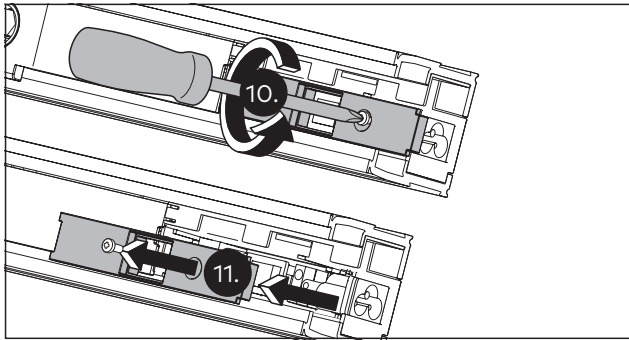

Fig. 18 Remove the cover
- 10.** Unscrew the screw from the cover on the connection side of both drives (Fig. 18). Keep the cover and screw, as both will be needed later.
- 11.** Remove the cover (Fig. 18).